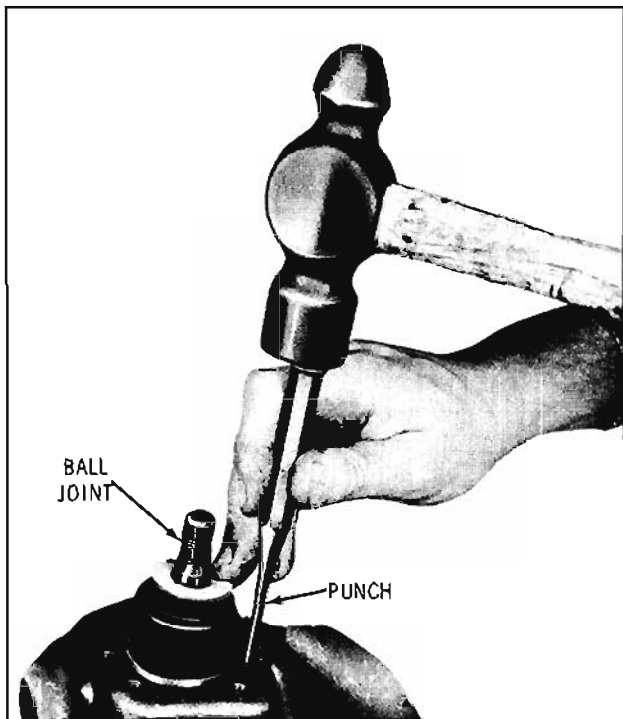

Fig. 9-125 Removing Upper Ball Joint
4. Punch out rivets using a small punch and remove ball joint. (Fig. 9-125)